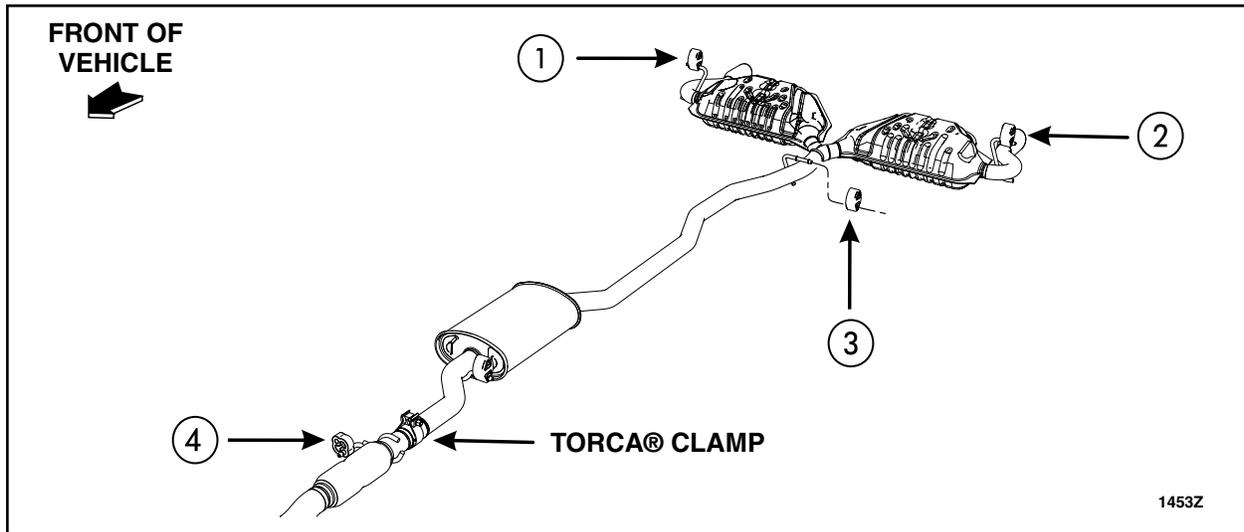

FIGURE 2
- a. Detach the four (4) muffler and tailpipe assembly isolators. See Figure 2.